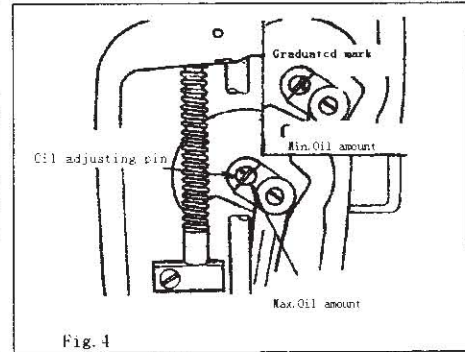

Fig. 4
6. How to regulate oil amount by means of manipulating elements on the face plate(Fig.4)